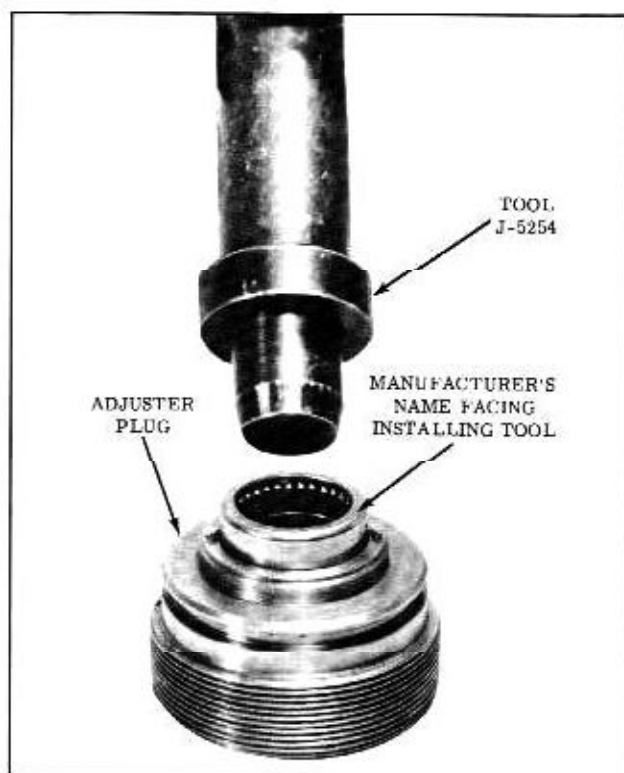

Fig. 4-81 Installing Bearing
1. If the needle bearing was removed, place new needle bearing over Tool J-5254 with the bearing manufacturer's identification against the tool and drive or press bearing until it is flush with the surface of the seal bore. (Fig. 4-81)